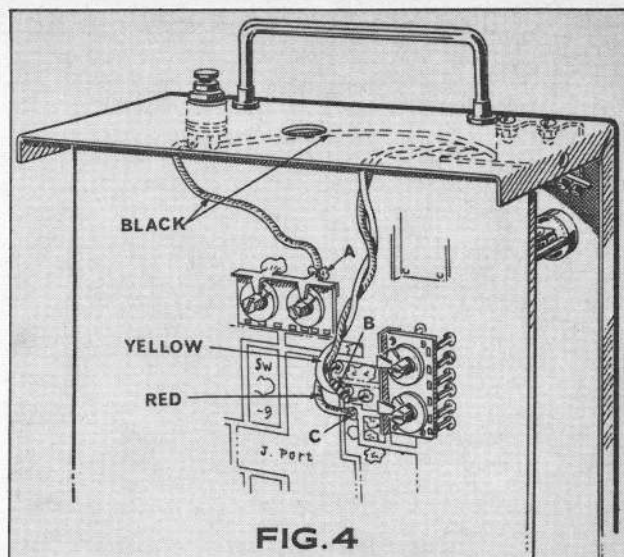

FIG. 4
- ( ) 27. Set the pushbutton for the pulser on your bench with the two terminals facing you. Referring to Fig. 4 for the correct terminal—solder the black wire from the reed pulser to the right hand terminal of the pushbutton.
- ( ) 29. Mount the reel pulser in the Tx as shown in Fig. 4 and photo 3. Attach it to the case with two 2-56 x  $\frac{1}{4}$ " bolts, lock washers and nuts. The bolts go down through the Tx case top.
- ( ) 30. Mount the pushbutton switch in the Tx case as shown in Fig. 4 and photo 3. Place through hole, slide on the  $\frac{3}{8}$ " chrome washer and tighten the  $\frac{3}{8}$ " hex nut.
- ( ) 31. Install the Tx circuit board in the case securing it with the four locknuts previously removed. Thread the black wire from the pushbutton and the red and yellow wires from the pulser between the top of the Tx case and the top of the Tx circuit board (Fig. 4).
- ( ) 32. Referring closely to Fig. 4 locate copperland A on the Tx circuit board. Land A is the point where the top right support leg of the bounce pots is soldered. Solder the black wire from the left-hand terminal of the pulser pushbutton to land A.
- ( ) 33. Referring to Fig. 4, locate copperland B on the Tx circuit board. Land B is the one to which the right lead of the only 100K ohm (brown-black-yellow) on the Tx circuit board is soldered. Solder the yellow wire from the reed pulser to land B.
- ( ) 34. Referring to Fig. 4, locate copperland C on the Tx circuit board. Land C is directly below land B. Solder the red wire from the reed pulser to land C.